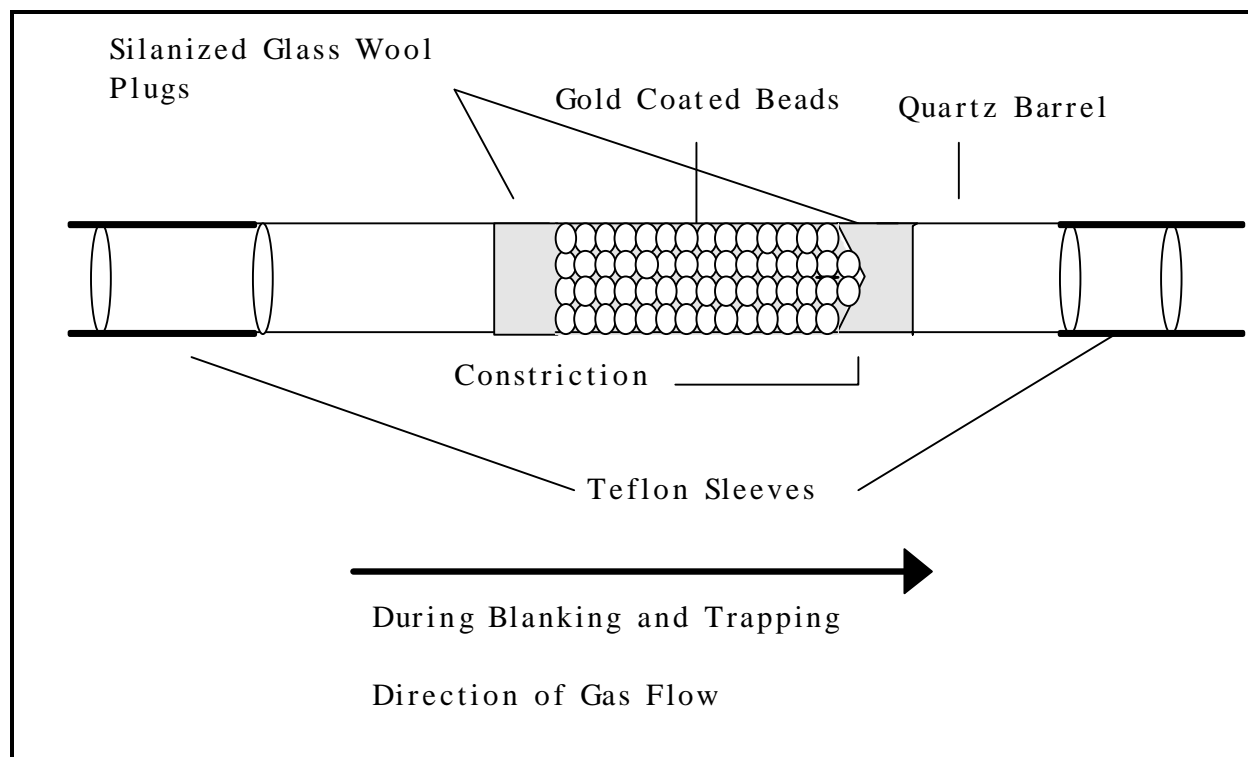

Figure 2. Gold Coated Bead Mercury Amalgamation Trap.
- 8.2.1 Remove the end-plugs from a gold trap and orient the trap so the constriction is on the downstream or right side of the gold beads. Slip the sample nichrome coil around the trap's quartz barrel. See Figure 2.